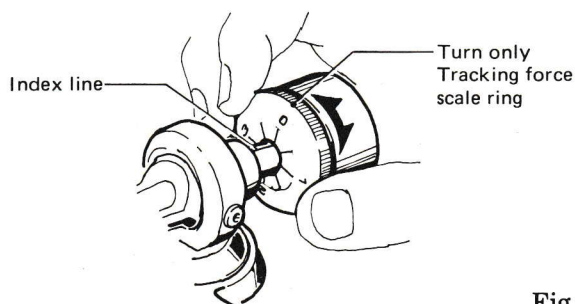

Fig. 6
8. Since the tracking force is zero when the tonearm is balanced level, turn just the tracking force scale ring in front of the counterweight, and set the "0" on the scale to the index line on the shaft (Fig. 6).